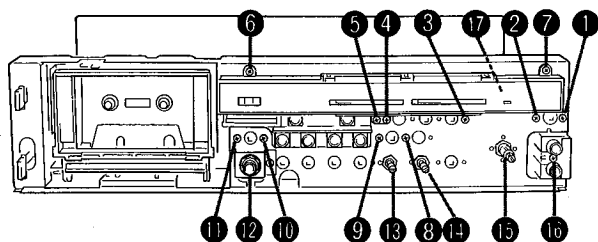

Fig. 4
④ METER AMP. P.C. BOARD REMOVAL
1. Remove the front panel assembly. (Refer to step ③)
2. Disconnect the connector from LED level display assembly and remove the screws ① and ② in Fig. 4 and then remove the meter amp. P.C. board.
2. Remove the screw 17 in Fig. 4 (rear of plate assembly) and then remove dolby NR indicator P.C. board.
3. Remove the screws 3 and 4 in Fig. 4 and then remove the dolby NR switch P.C. board.
5. Remove the screws 5 to 7 in Fig. 4 and then remove the plate assembly.
4. Remove the screws 9 to 11 in Fig. 4 and then remove the logic control P.C. board.